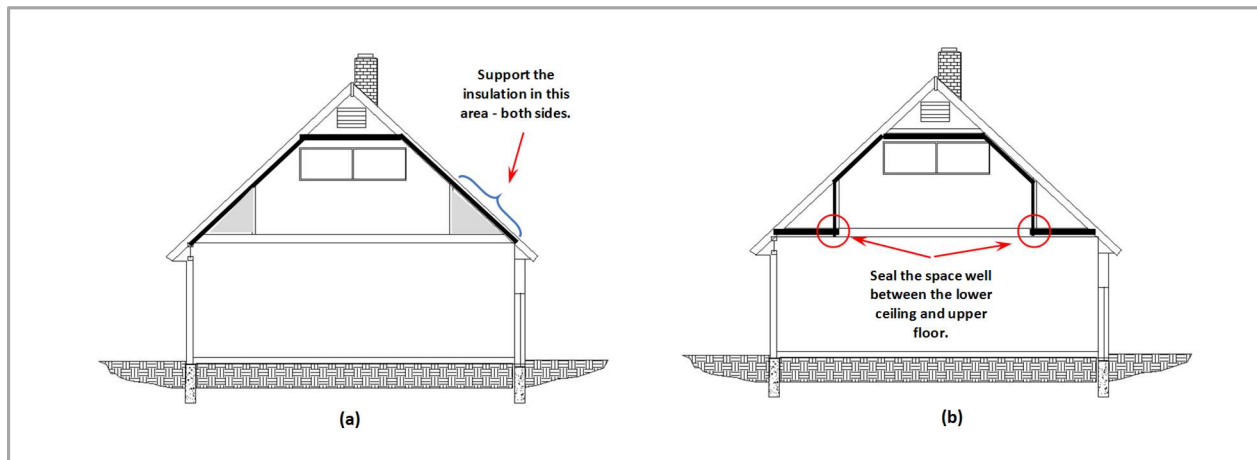

Figure 4: Insulation Options; Roof Slope and Knee Wall
- 1) The sloped wall/roof areas on the 2nd floor of Clubbers, Jubilees, Pennsylvanians, and Ranchers are problem areas. Levitt chose to insulate the slope of the roof behind the knee wall, but insulation was unsupported and frequently pulled away from the rafter bay allowing cold air to sweep into the space and follow the ceiling cavity into the house. Because the area behind the knee wall is heated (conditioned) space, when this strategy is used, heat is also lost when insulation falls and it rises up through the rafter bay and out. This all happens behind the knee wall out of sight. So, decision time – how do you want to insulate this area? There are basically two options illustrated below in Figure 4.
Option(a): Re-insulate by following the roof line per the original construction as shown in Figure 4(a). In the roof area behind the knee wall, add supports across the face of the insulation. Furring strips would work well here. Because you are adding insulation to the rafter bay, a 6-inch batt can be used (compared with a 3 ½ inch batt used in the walls) due to the larger size of the rafter. Leave a gap or add Styrofoam baffles to allow air to pass under the roof plywood.¹